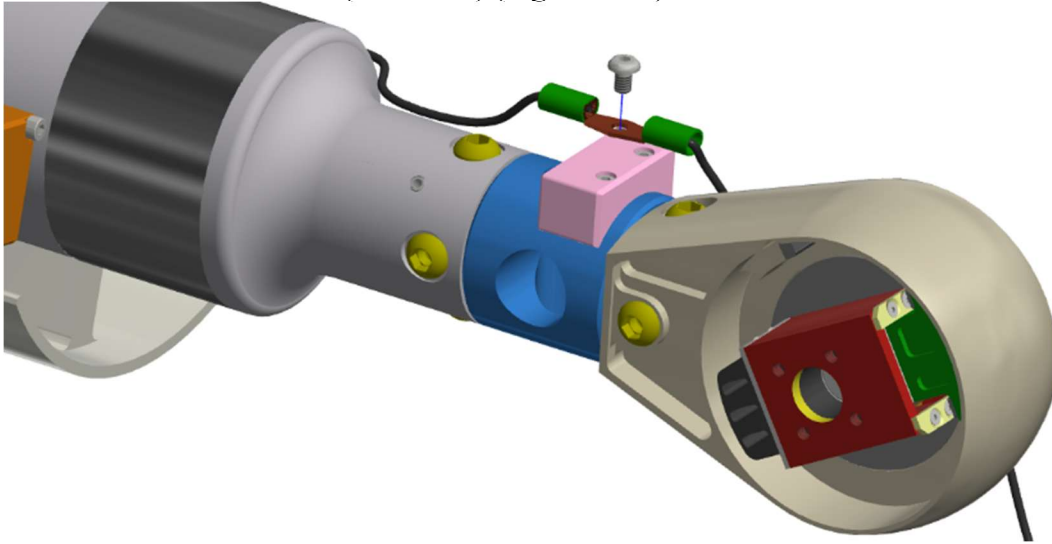

Figure 9-18. Remove the ground wires from the Structural Replacement Femur Load Cell Strain Relief (474-5102)
9.2.11 Remove the ground wires from the Structural Replacement Femur Load Cell Strain Relief (474-5102) (Figure 9-18).